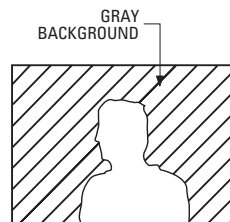

Figure 3. Image on Monitor
5. While viewing an object in front of a bright background (refer to Figure 3), adjust the ECLP variable resistor by turning it clockwise or counterclockwise until the foreground is clear (sharp) and the background appears gray.